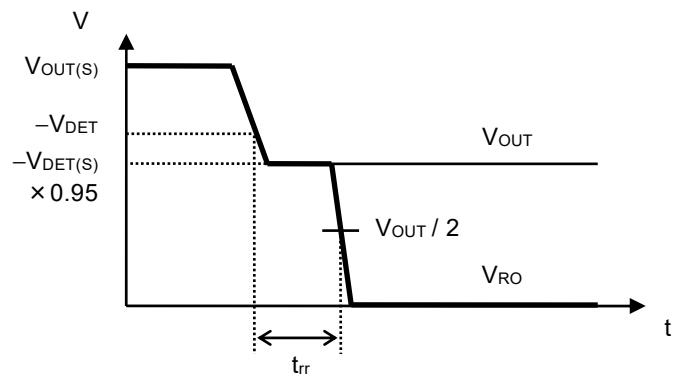

Figure 8 Reset Reaction Time
*4. The time from when V_{OUT} falls below -V_{DET} to when the RO pin output inverts (Refer to **Figure 8**).